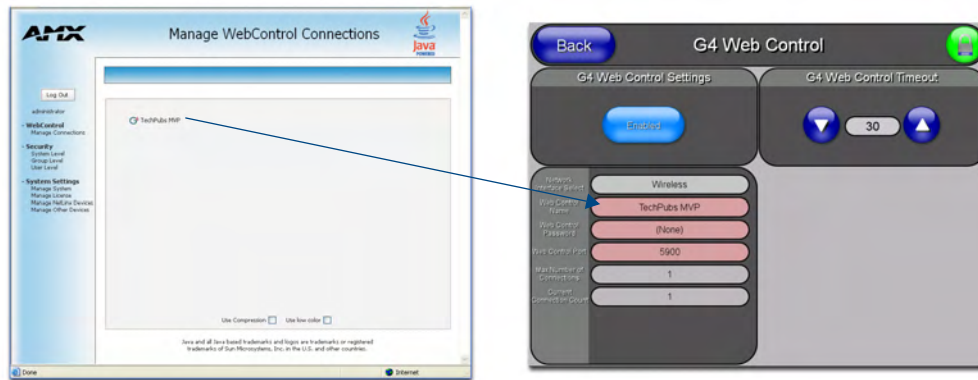

FIG. 45 Sample relationship between G4 Web Control and Manage WebControl Connections window
8. From the *Web Name* keyboard, enter a unique alpha-numeric string to identify this panel. This information is used by the NetLinx Security Web Server to display on-screen links to the panel. The on-screen links use the IP Address of the panel and not the name for communication (FIG. 45).